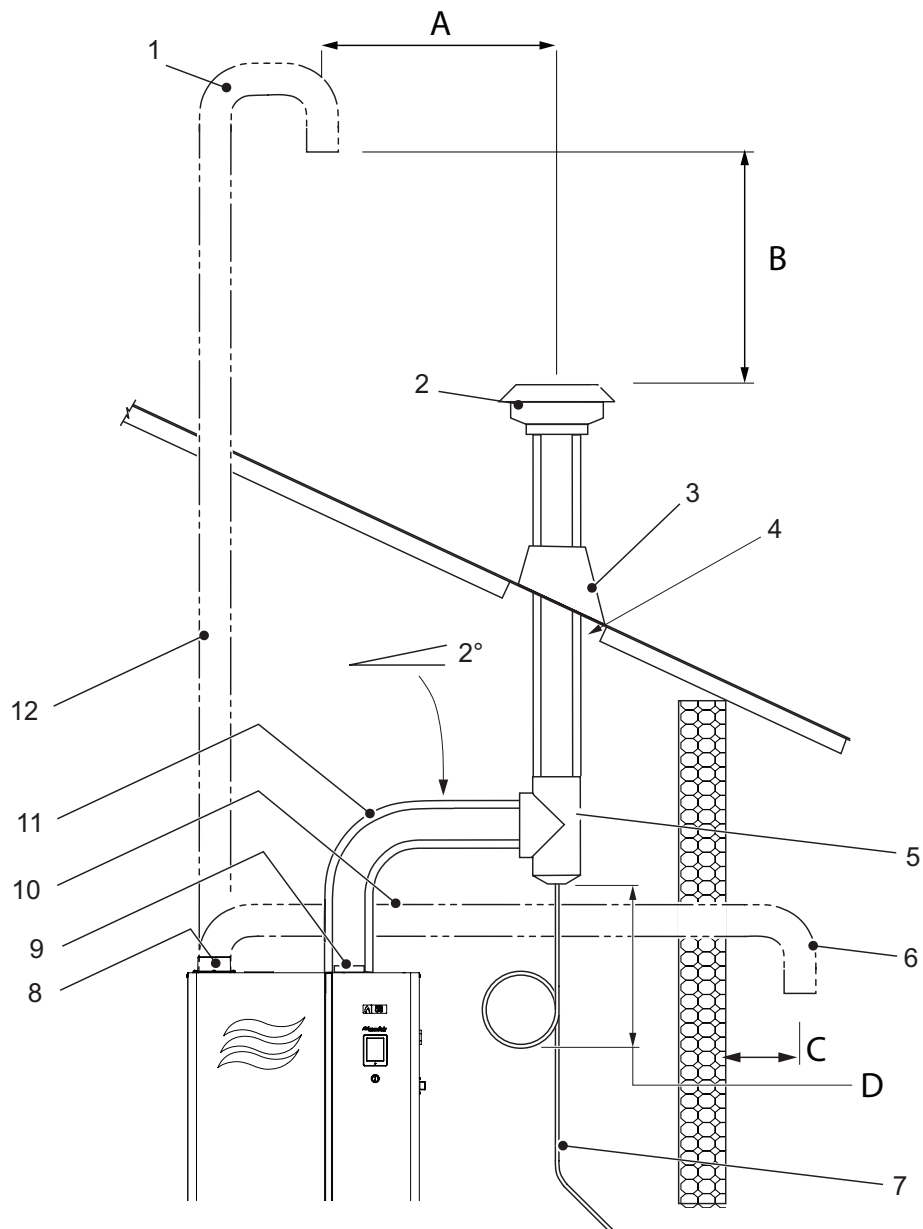
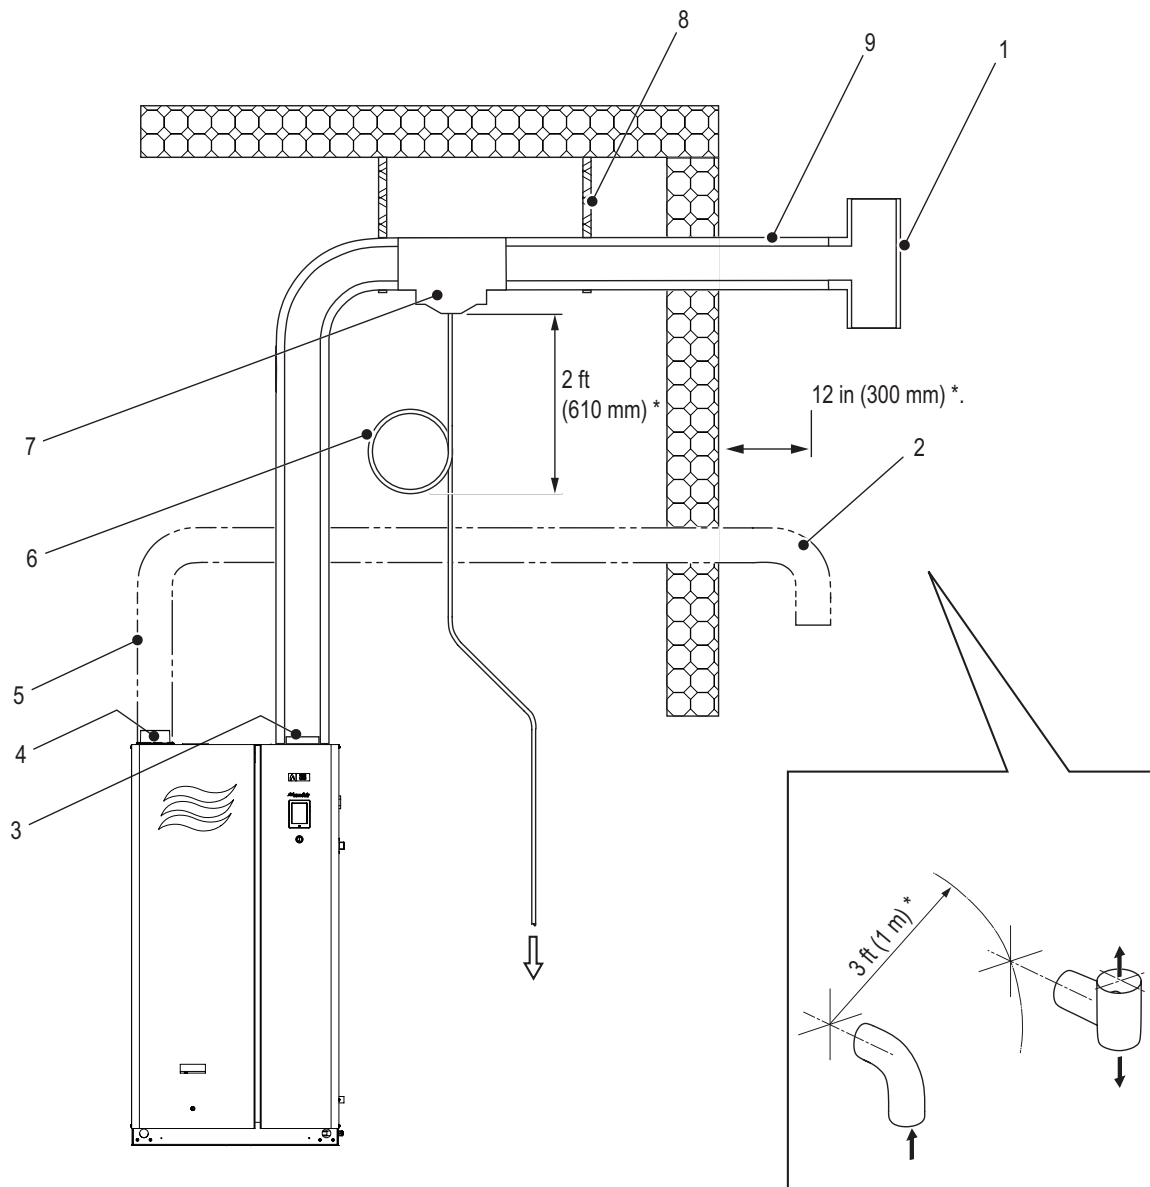

Figure 19: Vertical Venting (with Optional Sealed Combustion Hookup) – Category III/IV
Figure 20: Horizontal Venting (with Optional Sealed Combustion Hookup) – Category III/IV
Figure 19 on page 41 and Figure 20 on page 42 show the general types of venting arrangements. These are guidelines only. For the specific venting arrangements refer to "Installation as a C6 Appliance" on page 43, and "Gas Connection" on page 45 . Adhere to all national or local codes.
- **Category III/IV** appliances can be vented vertically or horizontally, and can terminate on a rooftop or sidewall provided they meet the requirements of the National Fuel Gas Code (ANSI Z223.1), or CAN/CGA B149 Installation Codes. Refer to Figure 19 on page 41 and Figure 20 on page 42. Adhere to vent manufacturer's instructions.
- **Category IV:** During normal operation, a Category IV appliance will create exhaust condensate. Install condensate drain lines according to vent manufacturer's instructions every 15 ft (4.5 m) on all horizontal runs, and at every horizontal-to-vertical transition. Install a full "Tee" with condensate port and trap at all horizontal-to-vertical transitions. The condensate trap must be minimum 12 in (300 mm) in diameter. Refer to Figure 19 on page 41 or Figure 20 on page 42.